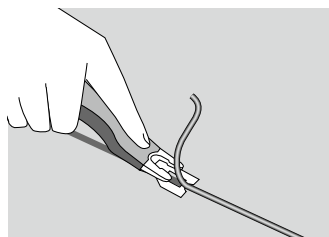

Fig. 1 - Levelling guide under the blade
- First pass:** make an initial cut by placing the levelling guide under the MOZART knife blade (fig. 1)